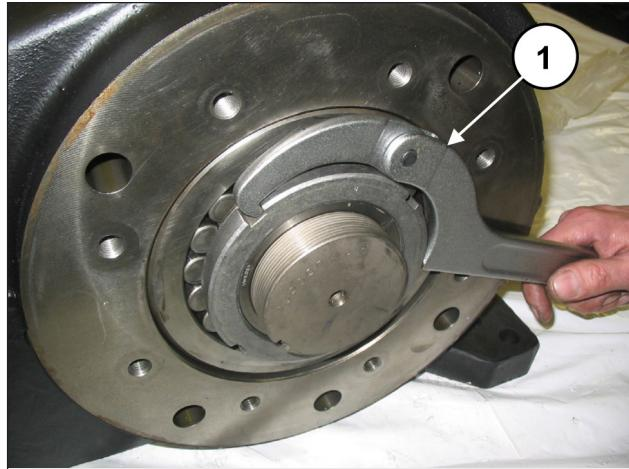
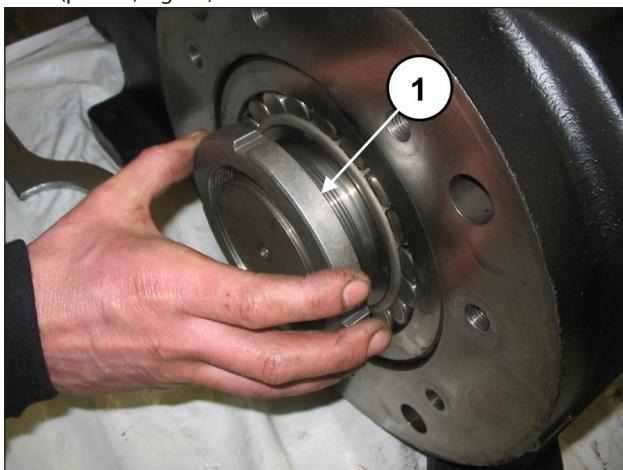

Fig. 20
Fig. 19
Screw a ring nut type SKF KM19 onto the pressure bush (pos. ①, Fig. 19) then, using an appropriate wrench, loosen the bush (pos. ①, Fig. 20).